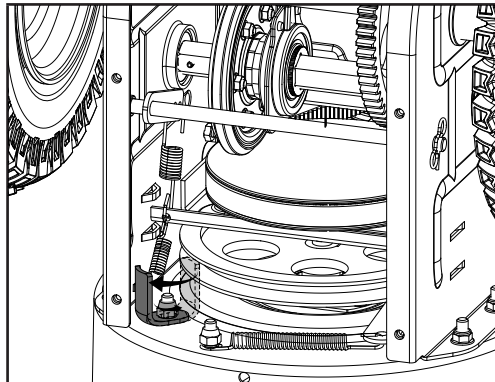

Figure 28A
- Slip the new auger drive belt into the compartment from the bottom of the snowblower placing it around the bottom of the auger drive pulley and slipping it around the front pulley on the engine. Ensure the belt is positioned between the bottom belt guard and the bottom of the auger drive pulley. You may need to remove the bolt holding the lower belt guard in place to properly seat the belt into the pulley, replace the belt guard and bolt after installing the belt into the pulley (Fig. 28A/B).